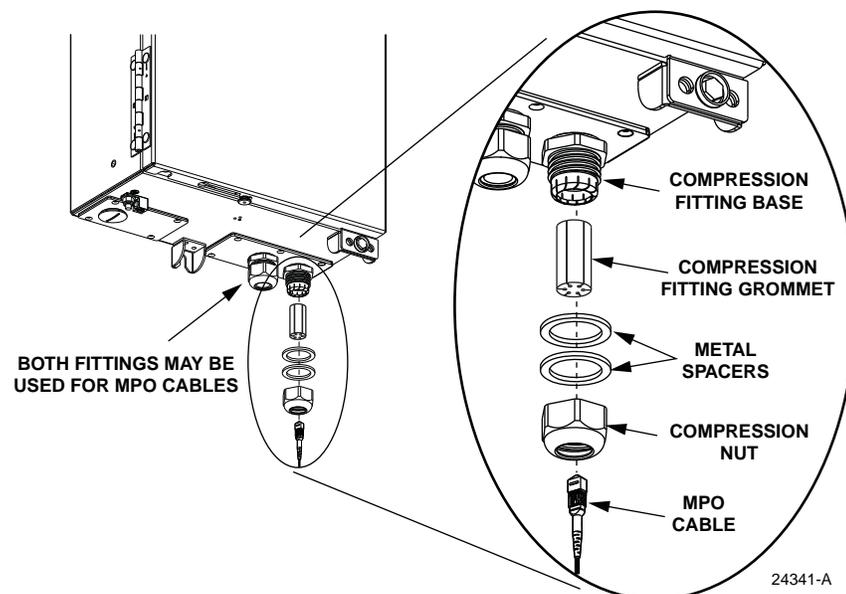

Figure 42. MPO Cable Compression Fittings
1. Locate the compression fittings (at the bottom of the cabinet) that are specified for MPO cable installation as shown in Figure 42.
3. Loosely re-install the compression nut on the compression fitting making sure the two metal spacers remain in place (see Figure 42) inside the compression fitting.